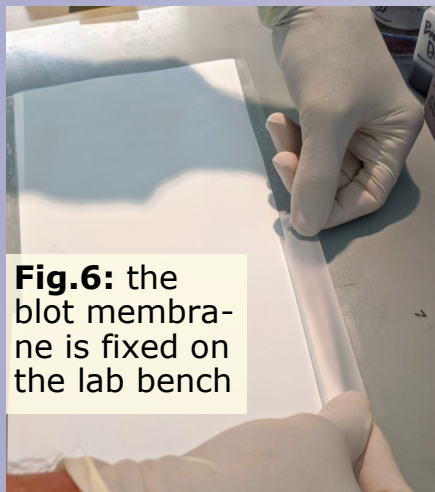

Fig.6: the blot membrane is fixed on the lab bench
2. Fix the NC-film on the laboratory bench using a scotch tape. See figure 6.